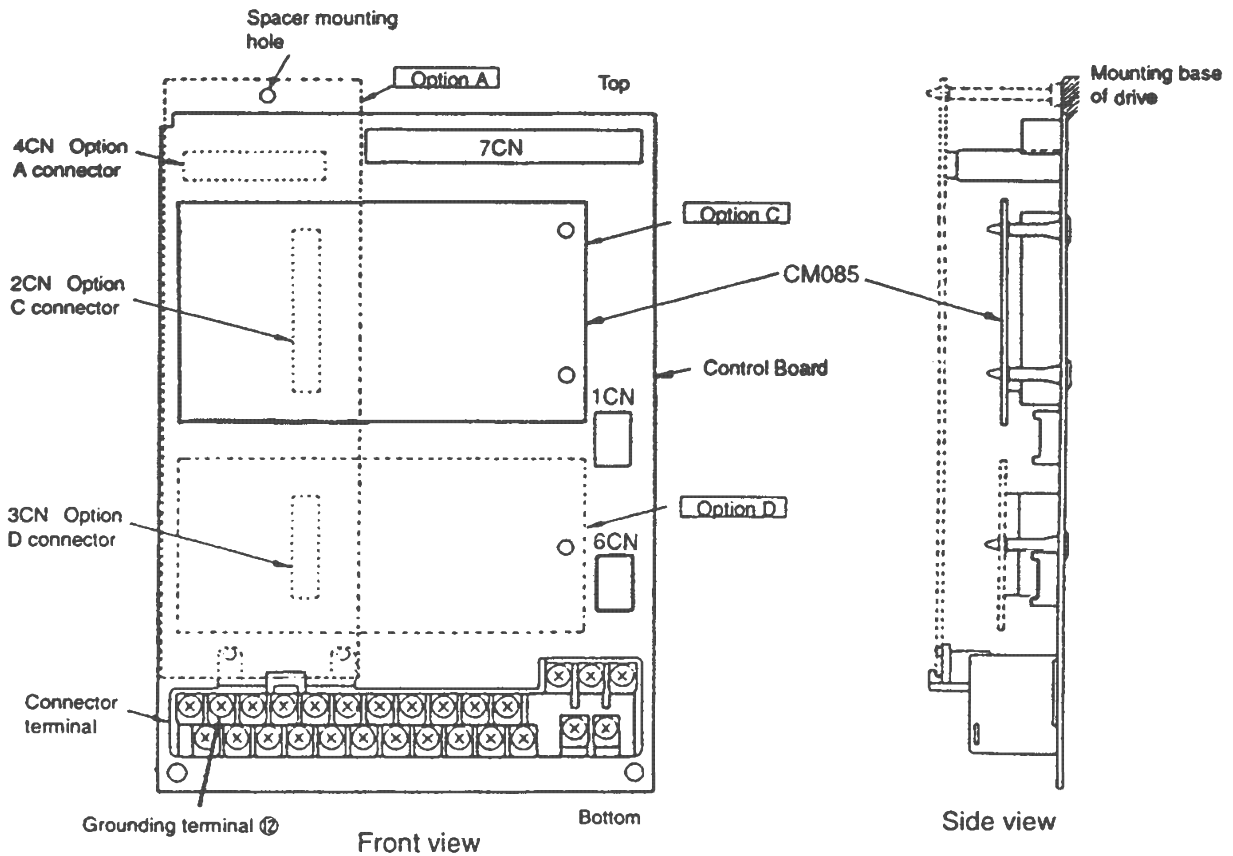

Figure 2. Installation of the RS-232C/RS-485 Interface Card CM085
4. Refer to Figure 2. Plug the 2CN connector on the back of the option card into the 2CN connector (60 pins) on the Control Board of the Drive. Gently press the card into place until its two mounting holes click into place on the two spacers at the right side of the Control Board.